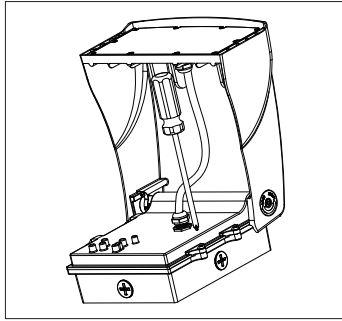
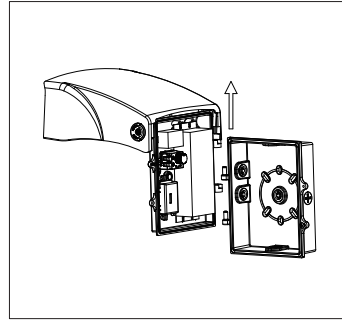

Figure 3
Figure 4
Step 2: Use a screwdriver to remove the screws on the driver box cover and separate the driver box from the radiator(Figure 3 & Figure 4);